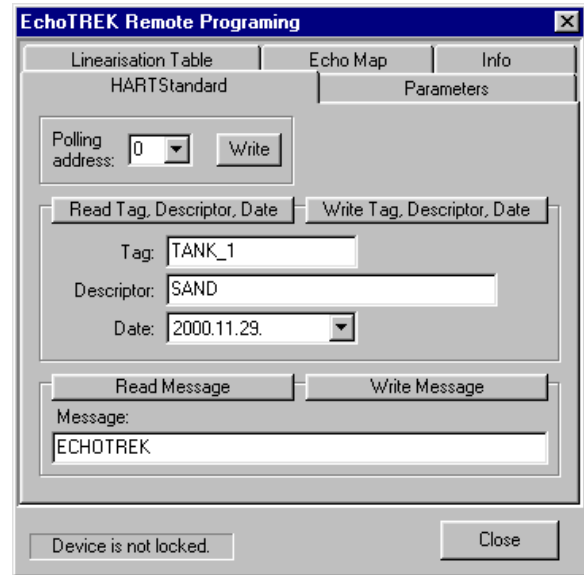

Figure 3
- HART Standard: process data of the actual application (Figure 3)
Chose Hart Standard by pressing the relevant tab (Figure 3). Select devices by the use of (combo box) *Polling address* and write (or overwrite) Tag, Descriptor, Date and Message for all EchoTREKs/EasyTREK according to the actual application. Text and data can be entered here and saved by pressing button *Write Tag, Descriptor* etc. Since these data are part of the node list they will be sent to and stored in the field device.